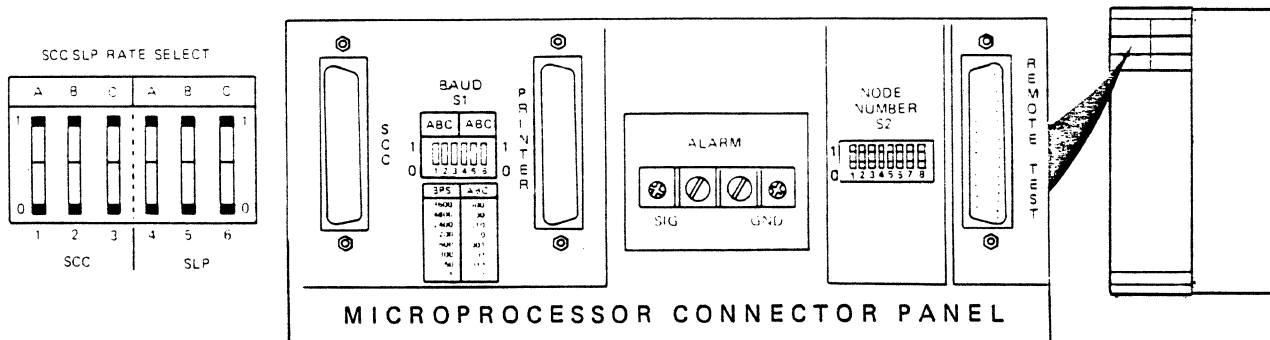

Figure 6-4. S1 Dipswitch Baud Rate Settings on the Microprocessor Connector Panel
4. Set the baud rate on switch S1 (Figure 6-4) for the SCC (switch control console, IBM 3161) to 4800.